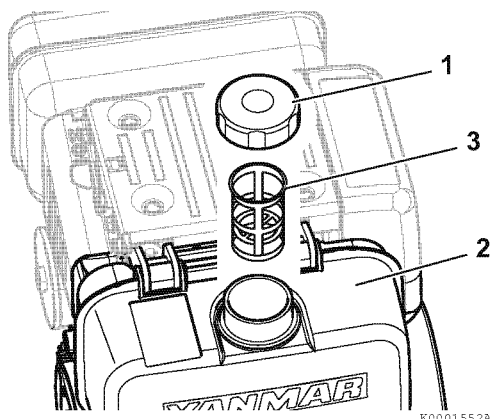

Figure 5-6
1. Clean the area around the fuel cap (1, **Figure 5-6**).
2. Remove the fuel cap from the fuel tank (2, **Figure 5-6**).
3. Lift out the inlet fuel screen (3, **Figure 5-6**).